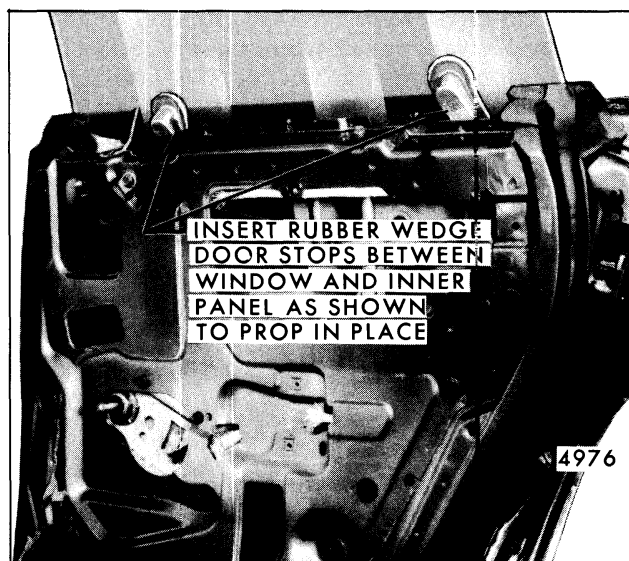

Fig. 5-140-Use of Rubber Door Stop Wedges to Prop Window in Place
2. Raise window to a full-up position and secure in place by positioning rubber door stop wedges between the door glass and inner panel at front and rear of door (Fig. 5-140).
3. Remove four (4) window regulator attaching bolts.
2. Remove center guide cam as subsequently described and prop glass in a full-up position by placing rubber door wedge stops between glass and inner panel (at belt) at the front and rear of glass (Fig. 5-140).
2. Remove window regulator attaching bolts. Disengage regulator lift arm roller from lower sash channel cam and prop window in a full-up position (Fig. 5-140). Rotate regulator assembly clock-wise so that motor portion of regulator assembly comes out first.
2. Prop window in full-up position (Fig. 5-140), remove center guide cam upper and lower attaching bolts ("4 and 6", Fig. 5-116).
2. Support window in full up position, using rubber door wedge stops between glass and inner panel (at belt) at front and rear of glass (Fig. 5-140).